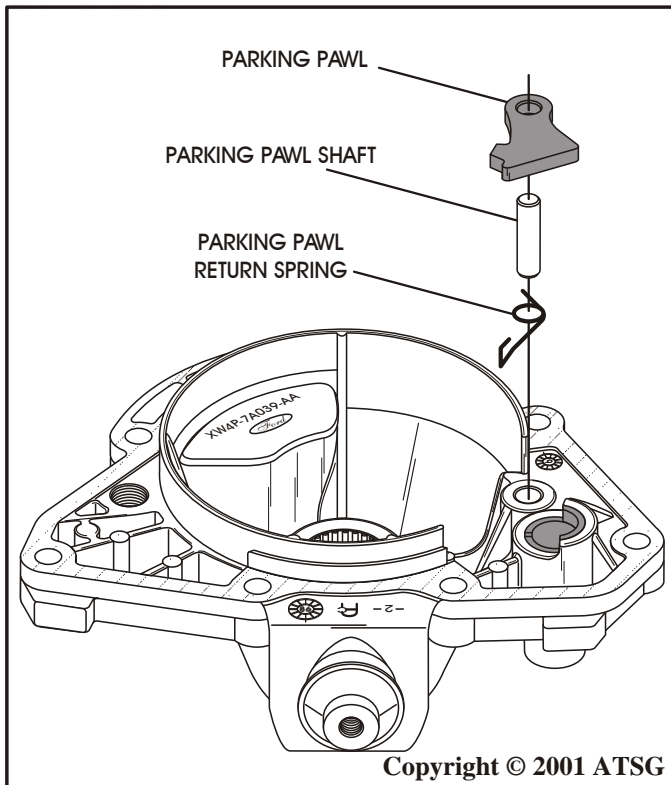

Figure 26
12. If the parking pawl, parking pawl return spring and parking pawl shaft remain in the extension housing, remove them as shown in Figure 26.